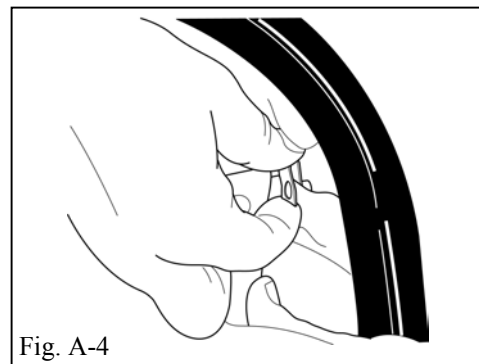

Fig. A-4
- ➔ 4. Attach panel clip as shown. (Fig. A-4)